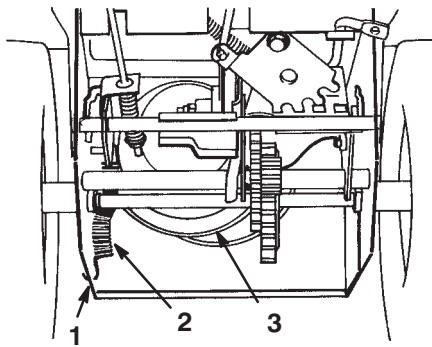

Figure 26
- Disconnect the spring from the notch in the bottom edge of the side plate (Fig. 26).
- Hook the spring into the notch in the bottom edge of the side plate (Fig. 26).